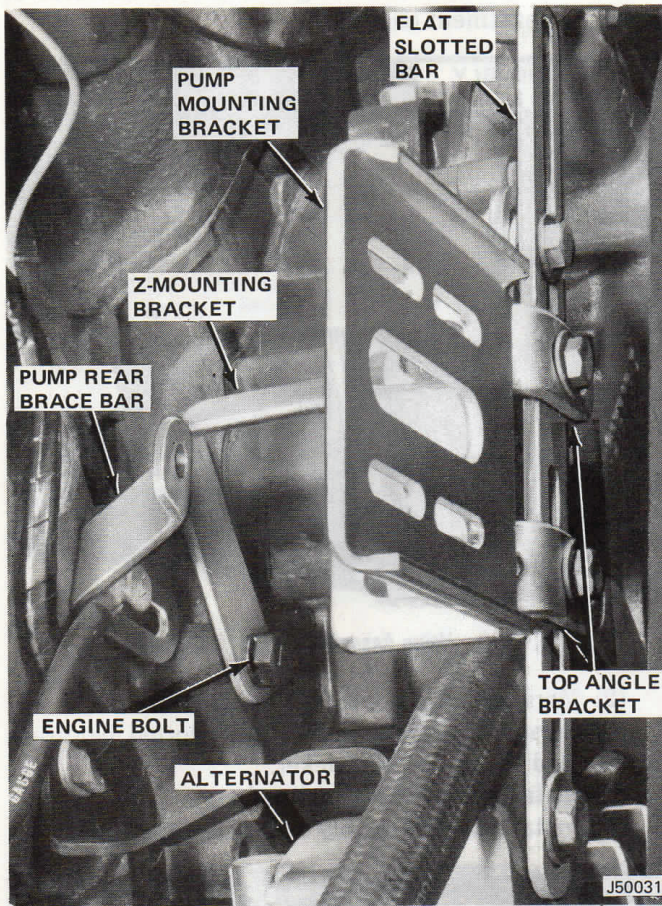

Fig. 1-29 Pump Support Bracket Installation
- (4) Place flat brace bar in vise and bend into Z-mounting bracket (fig. 1-29).
- (5) Remove engine bolt and attach Z-mounting bracket to engine block using engine bolt. Do not tighten bolt.
- (6) Attach offset bar and Z-mounting bracket to flat slotted bar using bolt, flat washers, lockwasher and nut.
- (7) Attach top angle brackets to flat slotted bar with capscrews, flat washers, lockwashers and nuts.
- (8) Assemble pump mounting bracket to two top angle brackets with bolts, flat washers, lockwashers and nuts.
- (9) Adjust alternator belt and tighten all bolts used in bracket and bar installations.